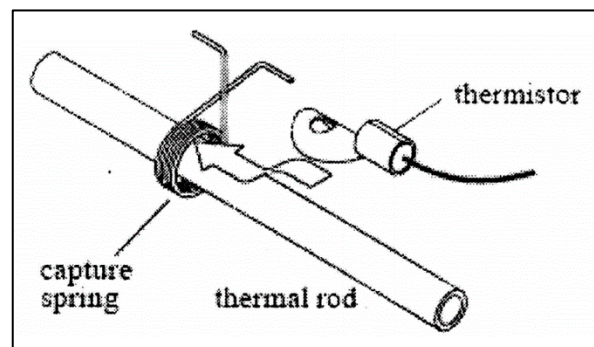

Figure 4 Placing the Thermistor lug (with thermistor) on the metal rod.
3. **Attach the Thermistor lug beneath the spring clamp on the metal rod (Figure 4).** With one hand, place the Thermistor lug over the top of the metal rod, such that the concave side fits snugly over the rod. Align the lug with the axis of the rod, so that there is maximum contact between the lug and the rod. With your other hand, press the ends of the spring clamp together. Slide the lug underneath the capture spring to attach the thermistor lug beneath the clamp.